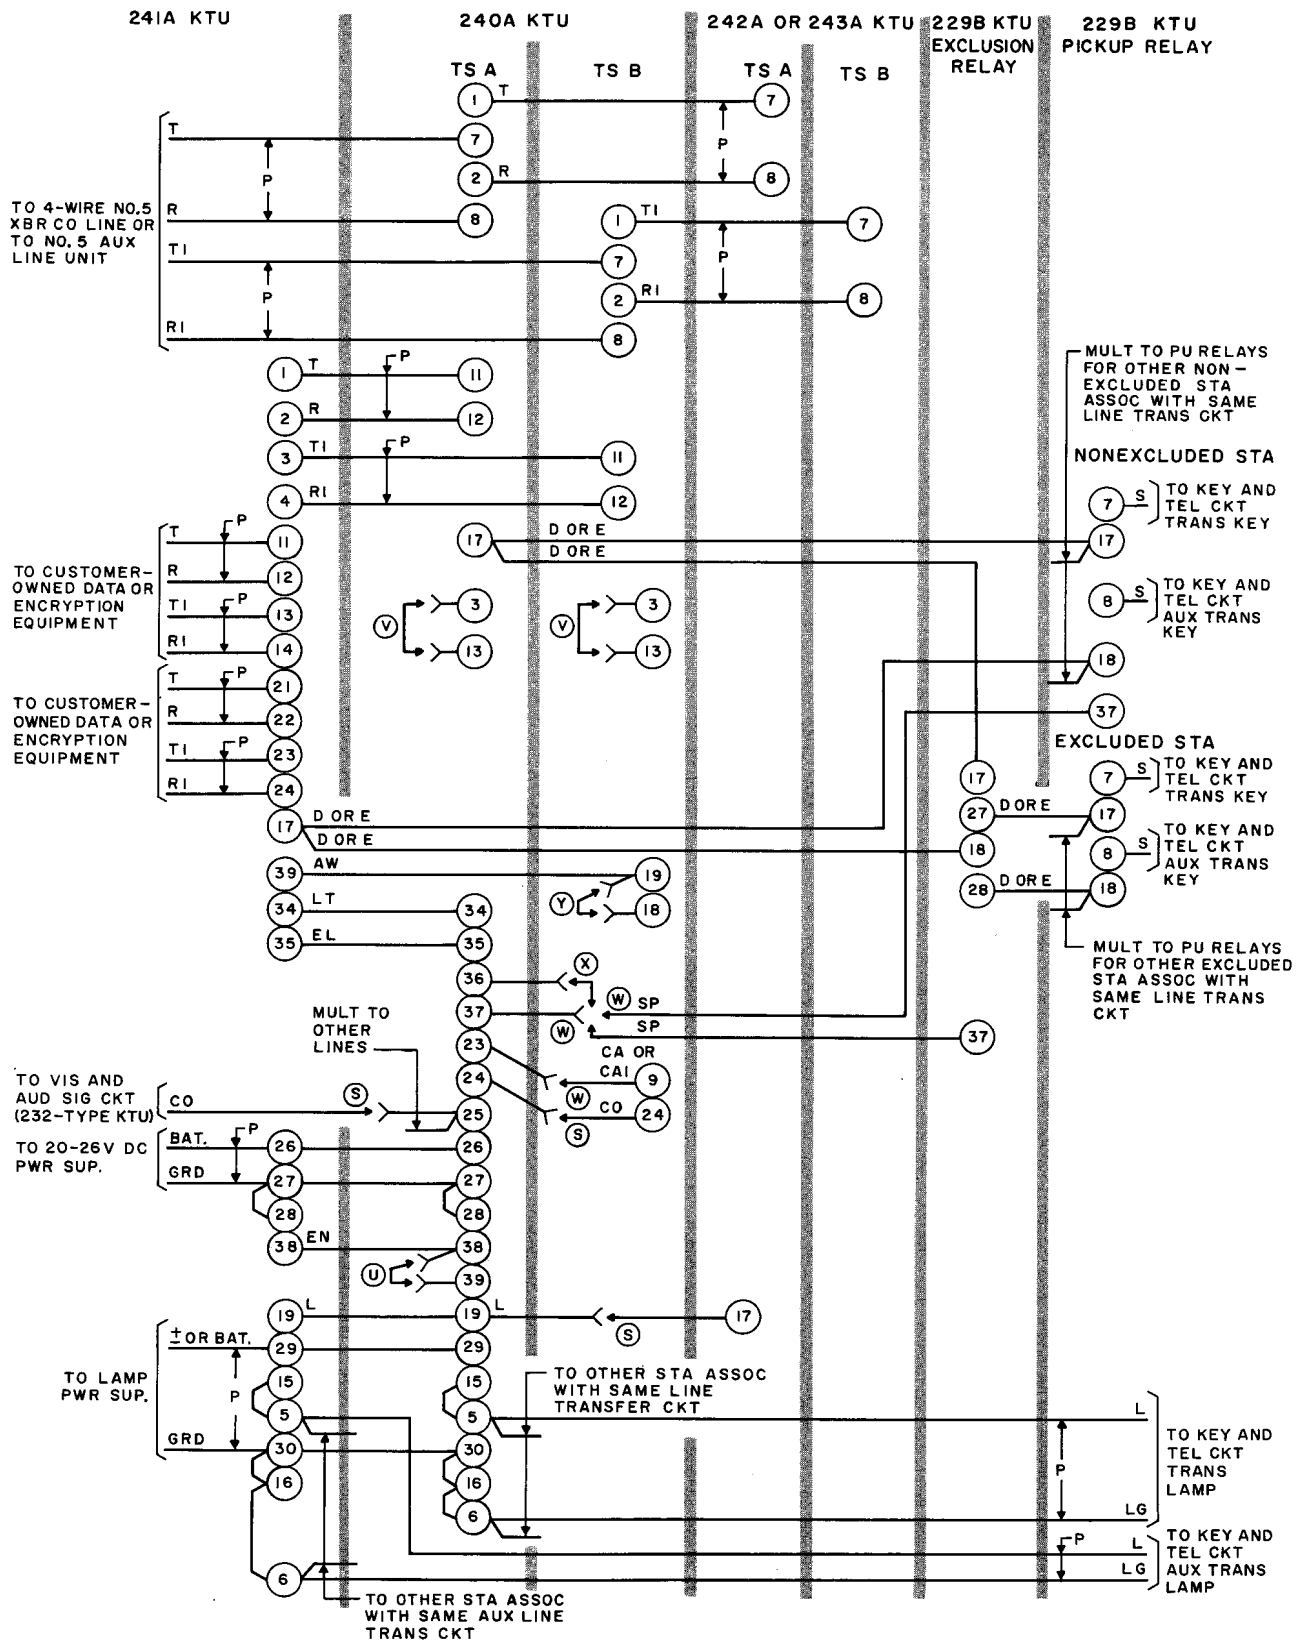

Fig. 6 - Connections for Line Transfer Circuit and Auxiliary Line Transfer Circuit (Connections Shown Are in Addition to Fig. 3, and to Fig. 4 If Provided)
- Fig. 6 - Connections for Line Transfer Circuit and Auxiliary Line Transfer Circuit.